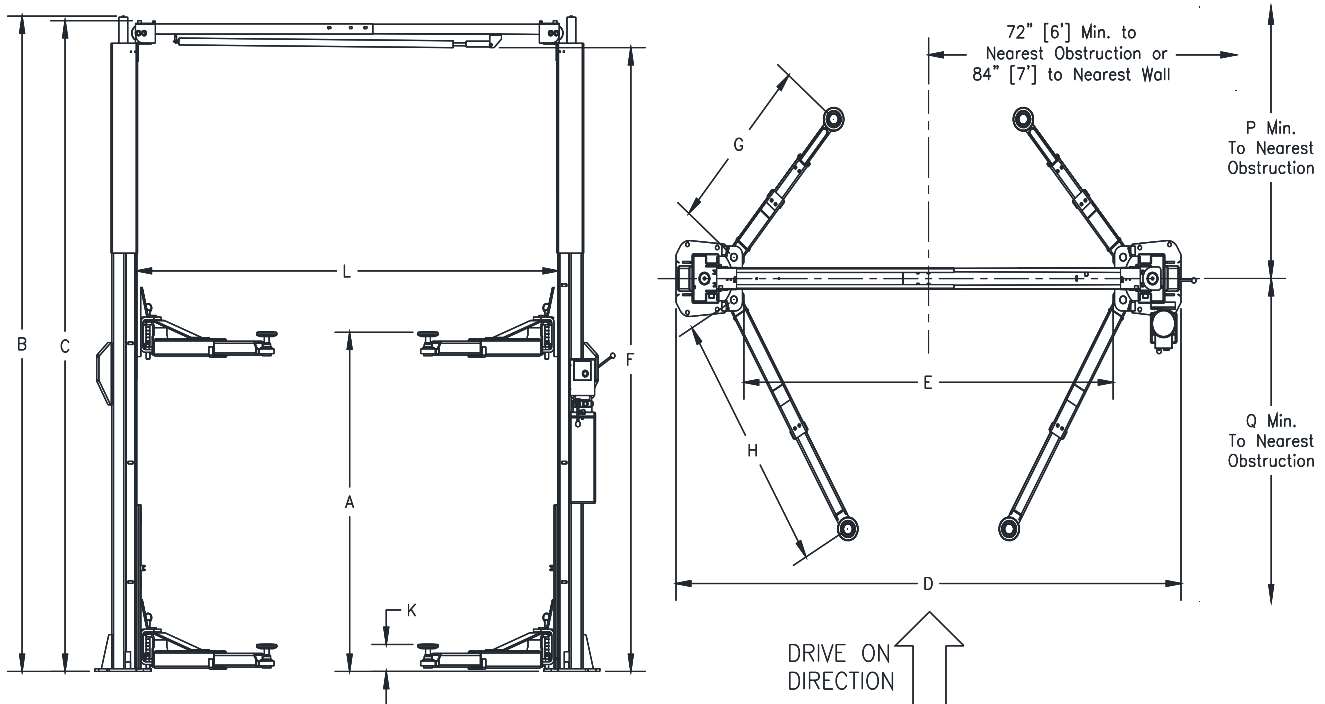
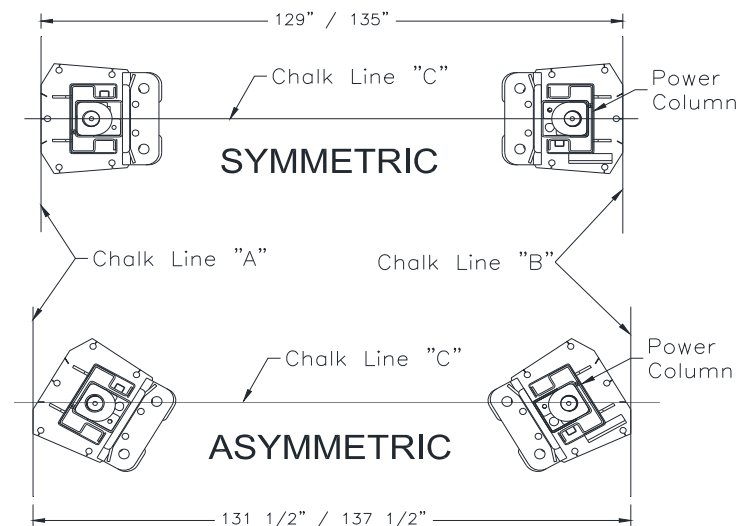

Fig 1 - General Specifications / Service Bay Layout
Fig 4 – Layout
- Layout the service bay according to architect's plans or owners instructions (**see Fig 1**). **Failure to install in this orientation can result in personal and property damage.** Be certain that the proper conditions exist, see page 3.
- Refer to Fig 1. Using the Base Width (D) Dimension, chalk two parallel lines (A & B) on the floor within 1/8" tolerance. Chalk a third line (C) perpendicular to lines A & B to designate fore and aft location. Erect both Column assemblies. Align the base plate edges to the chalk lines as seen in Fig 4 below. Slots in front and back of base plate should be in-line with chalk line "C".
- 9) Recheck "Base Width" dimension, **Fig 1**. Drill the anchor holes (Power Column Only) using the base plate as a template. Drill through the floor if possible or to a depth of 5 inches minimum.